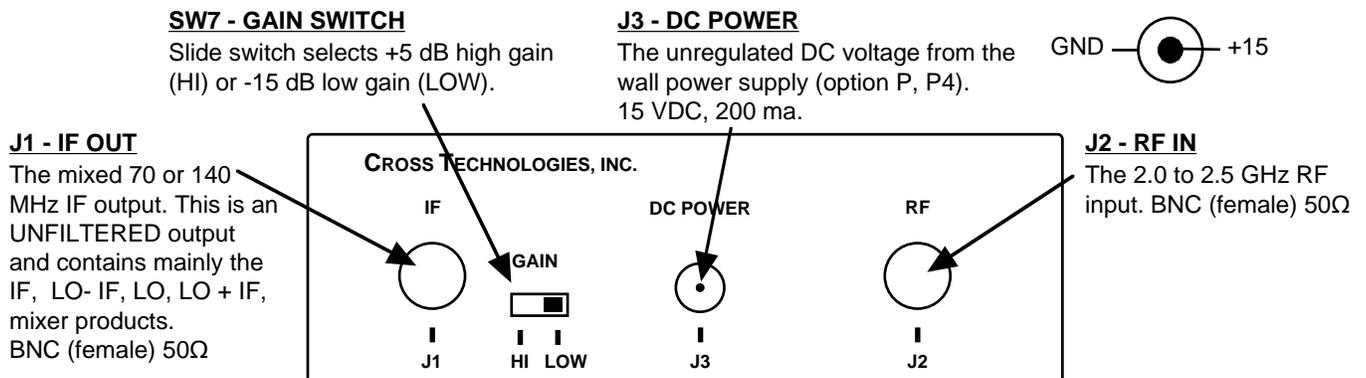

FIGURE 2.2 2005-20P Rear Panel Inputs and Outputs
2.3 Rear Panel Input/Output Signals - Figure 2.2 shows the input and output signals to the 2005-20P.
1. If using the receiver LNB voltage to power the 2005-10, be sure +14 to +24 VDC is on the RF center conductor. If using the wall power supply (**options -P or -P4**), connect the power supply to the DC POWER connector and either 120 VAC (**-P**) or 100-240 $\pm 10\%$ VAC (**-P4**) (Figure 2.2)
3. Select either HI or LOW GAIN using the switch (SW7) on the rear panel (Figure 2.2).
4. Connect a -10dBm max RF signal to RF In, J2 (Figure 2.2).
5. Connect the IF Out, J1, to the modulator under test (Figure 2.2).